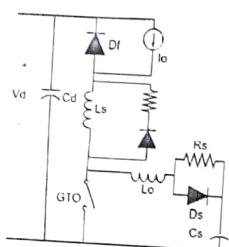

Fig. 1
7. Consider the step-down converter circuit shown in Fig. 1 without the turn-on snubber. The dc input voltage V_d is 500V, the load current $I_o=500A$, and the switching frequency is 1 kHz. The free-wheeling diode has a reverse-recovery time $t_{rr} = 10\mu s$. The GTO has a current fall time $t_{ff}=1\mu s$, a maximum reapplied voltage rate $dv/dt = 50 V/\mu s$, and a maximum controllable anode current $I_{AM}=1000A$.